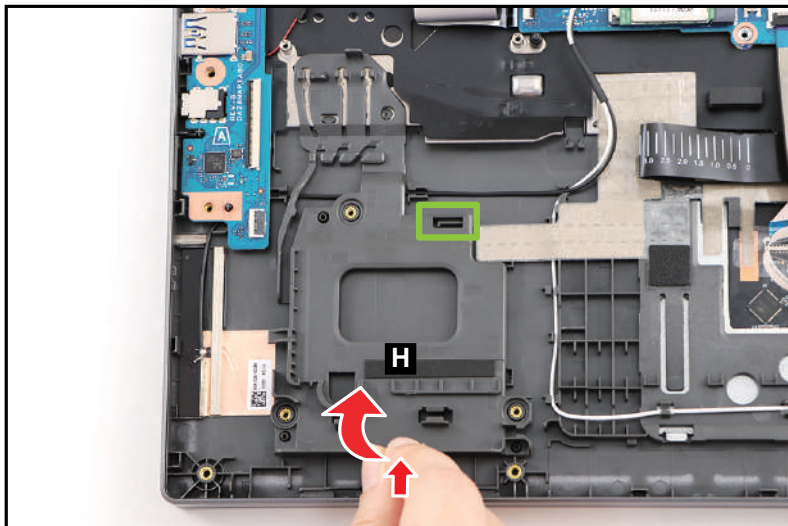

Figure 3-17. Smart Card Holder Removal
6. Push the smart card holder (H) forward to release it from the guide tab (highlighted by the green box) as shown in Figure 3-17. Then remove the card holder.